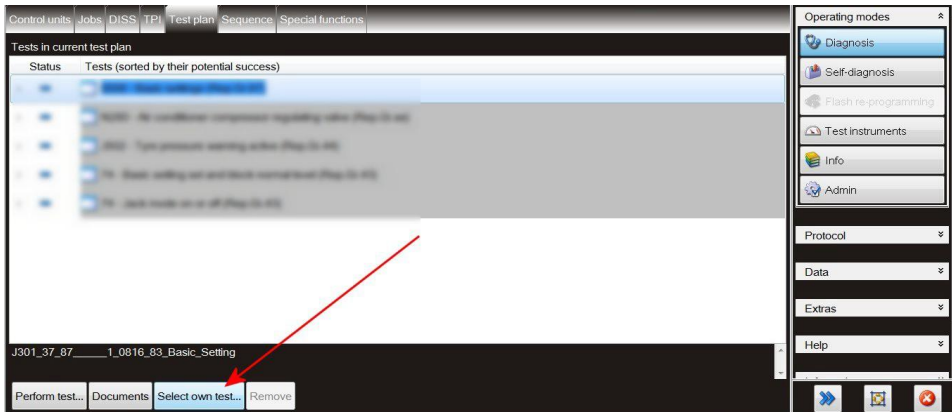

Figure 5
- Referring to Figure 5 – Navigate to Test plan – Select own test